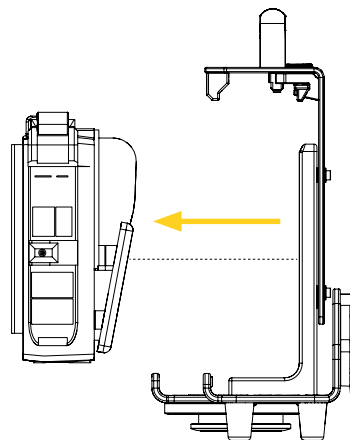

Figure 13: Removing the medical device from the BP76–FL MCD
2. Remove the medical device horizontally (Figure 13).